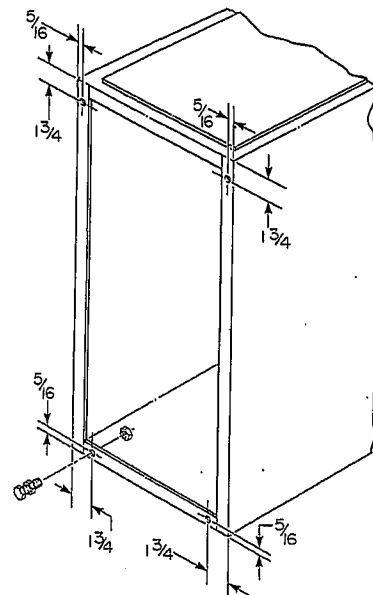

Fig. 6—Leveling Leg Installation
When the furnace is used with side inlet(s), and leveling legs are required, refer to Fig. 6, and install field-supplied corrosion-resistant 5/16-in. machine bolts and nuts.
1. Lay furnace on its back, locate and drill 5/16-in. diameter hole in each bottom corner of furnace as shown in Fig. 6.